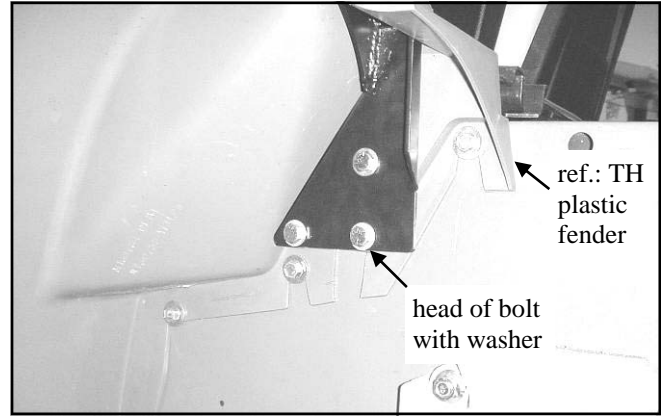

Fig. 5.1
5.1 Orient the left and right rear mount tabs so that it lines up with the three hole pattern shown in figure 5.1. Ref.: **ON MODEL TH ONLY**: the angles on the rear mount tab match the underside angles of the plastic fender.
5.2 The rear mount tab should be oriented so that the top mounting surface and top bolt hole is pointing out away from the center of the vehicle. NOTE: the plastic fender shown in fig. 5.1 is only on the TH model. Install rear mount tabs using three (3) 3/8 x 7/8" long hex head bolts, three steel washers, and three locknuts per side. The locknuts go behind the plates without washers. The head of the bolt is outboard as shown with washers under the bolt heads.